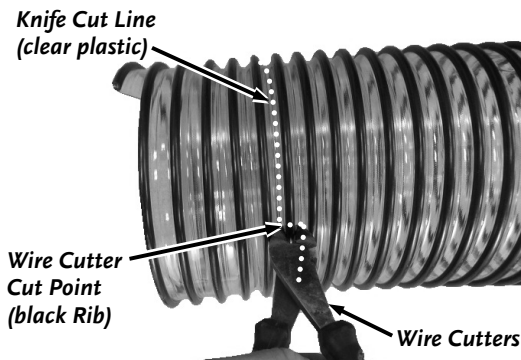

Figure 59
- Cut the Hose to the length required using Wire Cutters to cut the black plastic spiral and then cut the clear Hose with the razor knife (**Figure 59**).